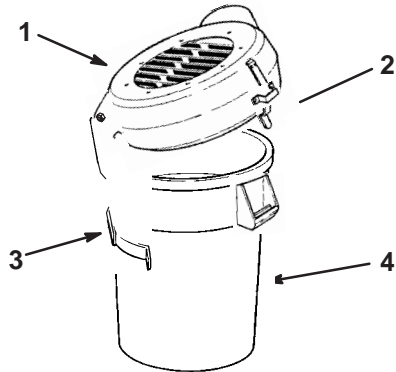

Figure 16
15. Raise the top assembly and install the canister into the canister support. Lower the top assembly and latch it in place (Fig. 16).
2. Open the latch and lift the top assembly to remove or look inside the canister. Remove the canister from the canister support and empty if full (Fig. 16).
3. Reinstall the canister in the canister support, then close and latch the top assembly (Fig. 16).